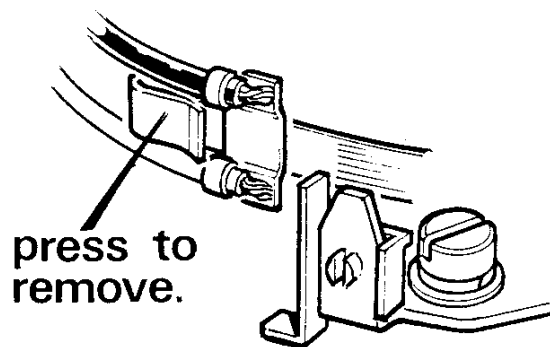

Figure 4 Correct replacement of points
2. Press the terminal end of the moving contact spring towards the cam (Figure 4). this will disengage the spring from the insulating piece attached to the terminal post. The capacitor lead and the low tension fly-lead can then be detached from the folded end of the spring. remove the slotted screw securing the fixed contact and lift the assembly from the base plate.
1. When refitting or replacing a contact breaker set, it is important to note that the capacitor and low tension fly-lead connecting terminal in the folded end of the moving contact spring has the cable clips facing outward. Otherwise the lower clip may foul the fixed contact plate short circuiting the contact breaker. (Figure 4)